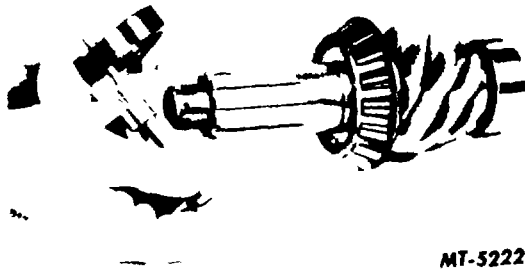

Fig. 12. Measuring Spacer Thickness
11. When preload does not agree with "SPECIFICATIONS", bearing load may be increased by installing a thinner spacer or decreased by using a thicker spacer. Determine spacer thickness using a micrometer (Fig. 12) and make a new selection accordingly. Closer adjustment may be obtained by working spacer to desired thickness, using emery cloth on a flat surface.